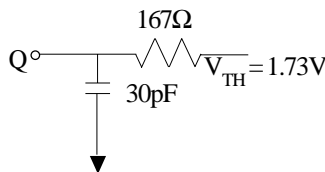

Fig. 1 Output Load Equivalent
Output load .....	See Figures 1 and 2
- Test conditions as specified with the output loading as shown in Fig. 1 unless otherwise noted.